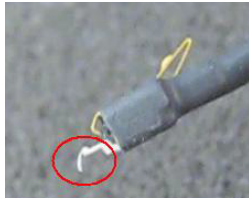

Figure 78 Forming the Probe Head's Tip
- e Form the N5439A probe head ZIF tip wires as shown **Figure 78**. If you are using the browser probe head, you do not need to adjust the shape of the tips.